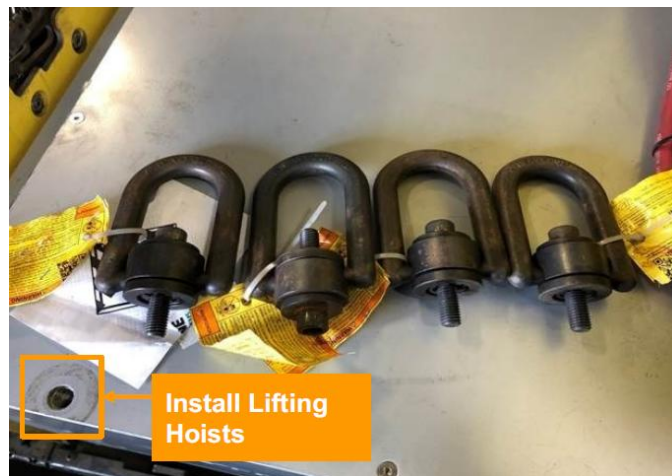

Figure 15: Image depicting where to install M14 lifting hoists on the battery.
2. Install the M14 lifting hoists onto the battery with the power drill (Figure 15).